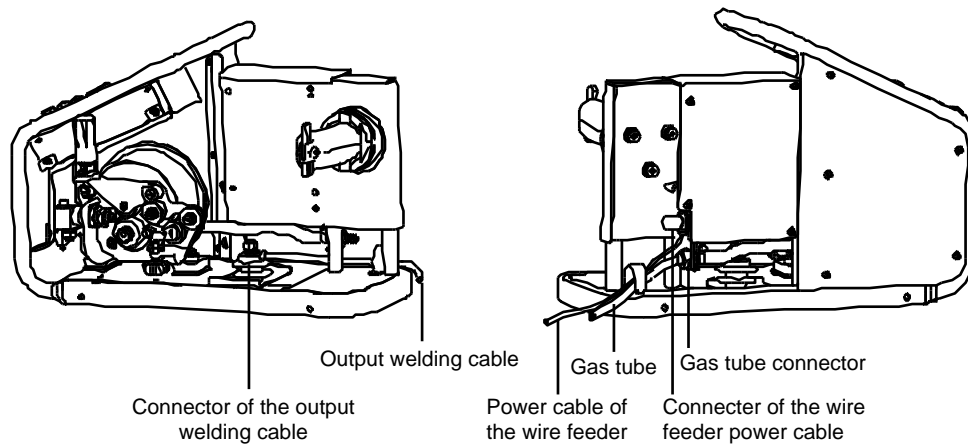

Figure 2-4 Schematic diagram of connecting the wire feeder
5. Figure 2-4 shows the cable connections.